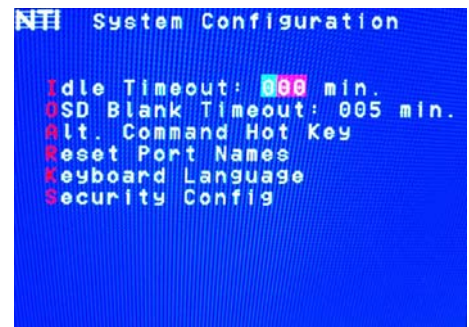

Figure 34- Change value of Idle Timeout
1. press  from the System Configuration menu (page 26) to display the pink edit field around the value (see Figure 34)